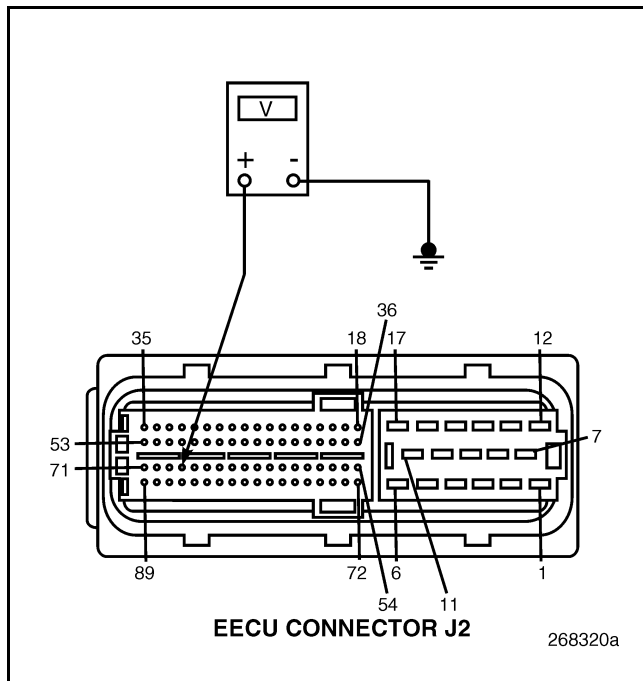

Figure 85
5. Measure the voltage between EECU harness connector J2 pin 68 and a good ground (see Figure 85).